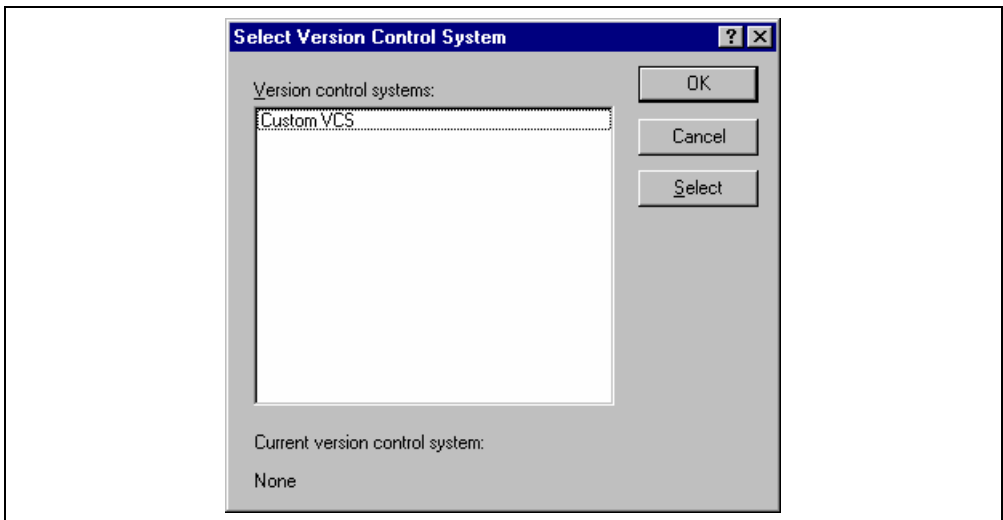

Figure 7.3: Select Version Control System Dialog
1. Select [Version Control->Select...]. The dialog shown in figure 7.3 will be displayed. This dialog lists all of the supported version control systems.
Note: Only those version control systems which have been installed with the HEW will appear in the “Select Version Control System” dialog (figure 7.3).